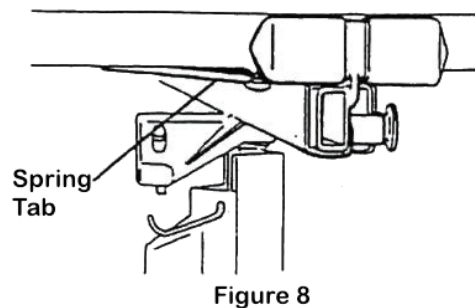

Figure 8
- Press each crossarm forward into the socket until the spring tab on the bottom of the crossarm snaps into place. (Figure 8)